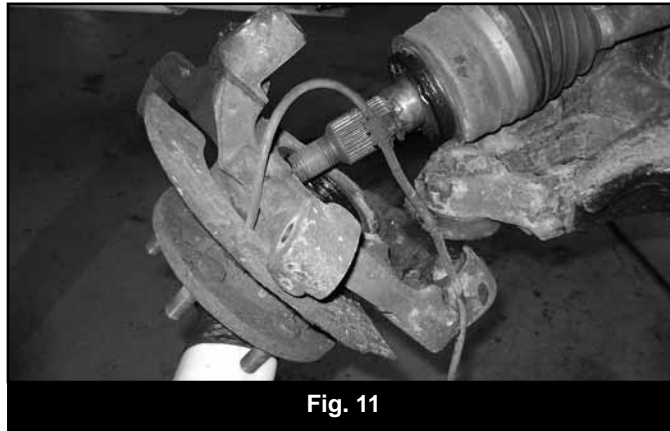

Fig. 11
25. Remove the upper and lower ball joint nuts. Reinstall the nuts a few turns by hand. Dislodge the upper and lower ball joints from the steering knuckle by striking the knuckle near each joint with a hammer. Remove the upper ball joint nut and allow the knuckle/CV axle and lower control arm to swing down. Remove the CV axle from hub. (Fig 11)